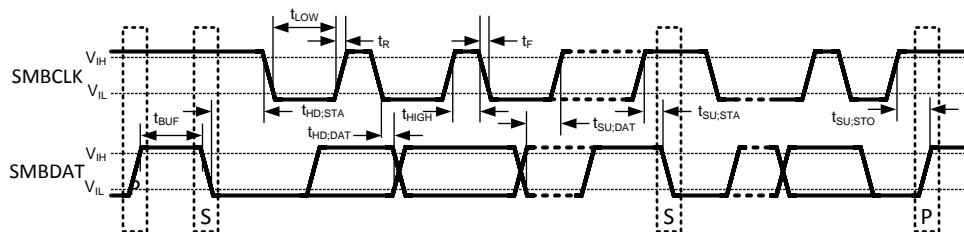

Figure 2. SMBus Communication
- (1) Absolute Maximum Ratings indicate limits beyond which damage to the device may occur. Operating Ratings indicate conditions for which the device is ensured to be functional, but do not ensure specific performance limits. For ensured specifications and test conditions, see the Electrical Characteristics. The ensured specifications apply only for the test condition listed. Some performance characteristics may degrade when the device is not operated under the listed test conditions. Operation of the device beyond the Maximum Operating Ratings is not recommended.
- (2) When the input voltage (V_I) at any pin exceeds the power supplies (V_I < GND or V_I > V_{DD}), the current at that pin should be limited to 5 mA. Parasitic components and/or ESD protection circuitry are shown in Figure 2 and Table 1 for the LM95231's pins. Care should be taken not to forward bias the parasitic diode, D1, present on pins: D1+, D2+, D1-, D2-. Doing so by more than 50 mV may corrupt the temperature measurements.
- (3) Thermal resistance junction-to-ambient when attached to a printed circuit board with 1oz. foil and no airflow: